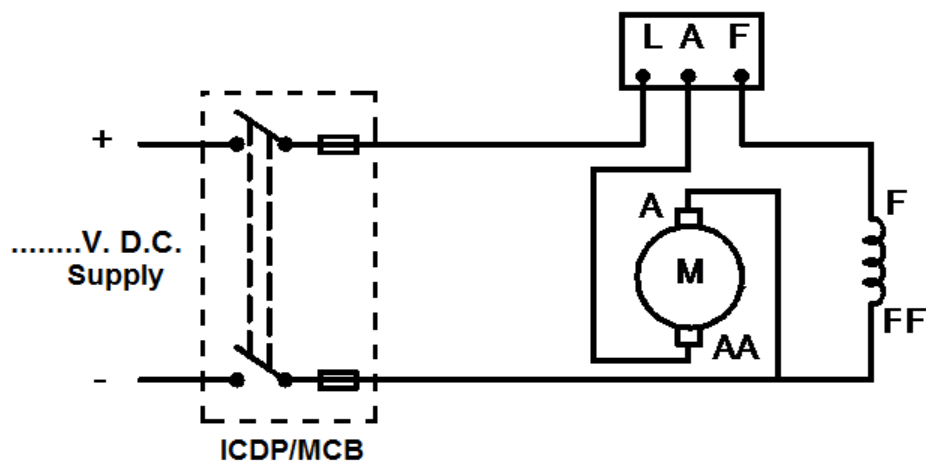

Fig.3 (Reversed Rotation by Reversing Armature Current)
7. Reverse the connection of the armature winding as shown in Fig.3 and observe the direction of rotation.
3.	As per fig 3